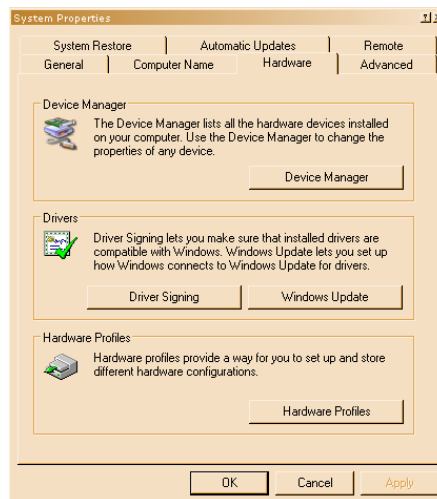

Figure D.12 Hardware Properties
- 2) Browse to the Hardware Tab (Figure D.12), Click the Button labeled “Device Manager”.